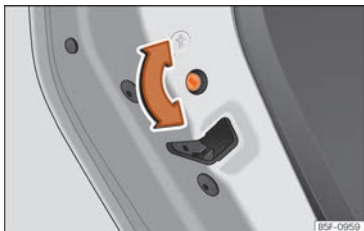

Fig. 83 Childproof lock on the left hand side door.
- With the door open, rotate the groove in the door using the ignition key, clockwise for the left hand side doors »» Fig. 83 and anti-clockwise for the right hand side doors.
- With the door open, rotate the groove in the door using the ignition key, anti-clockwise for the left hand side doors »» Fig. 83 and clockwise for the right hand side doors.